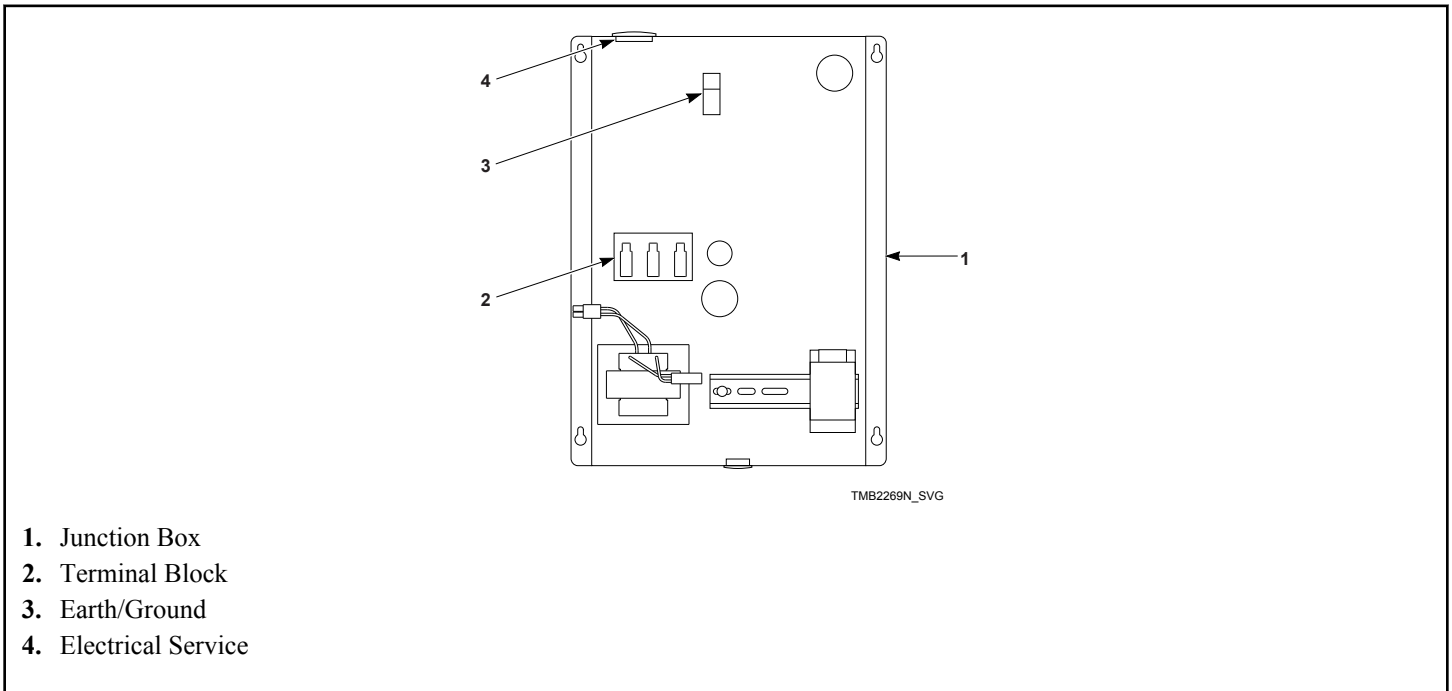
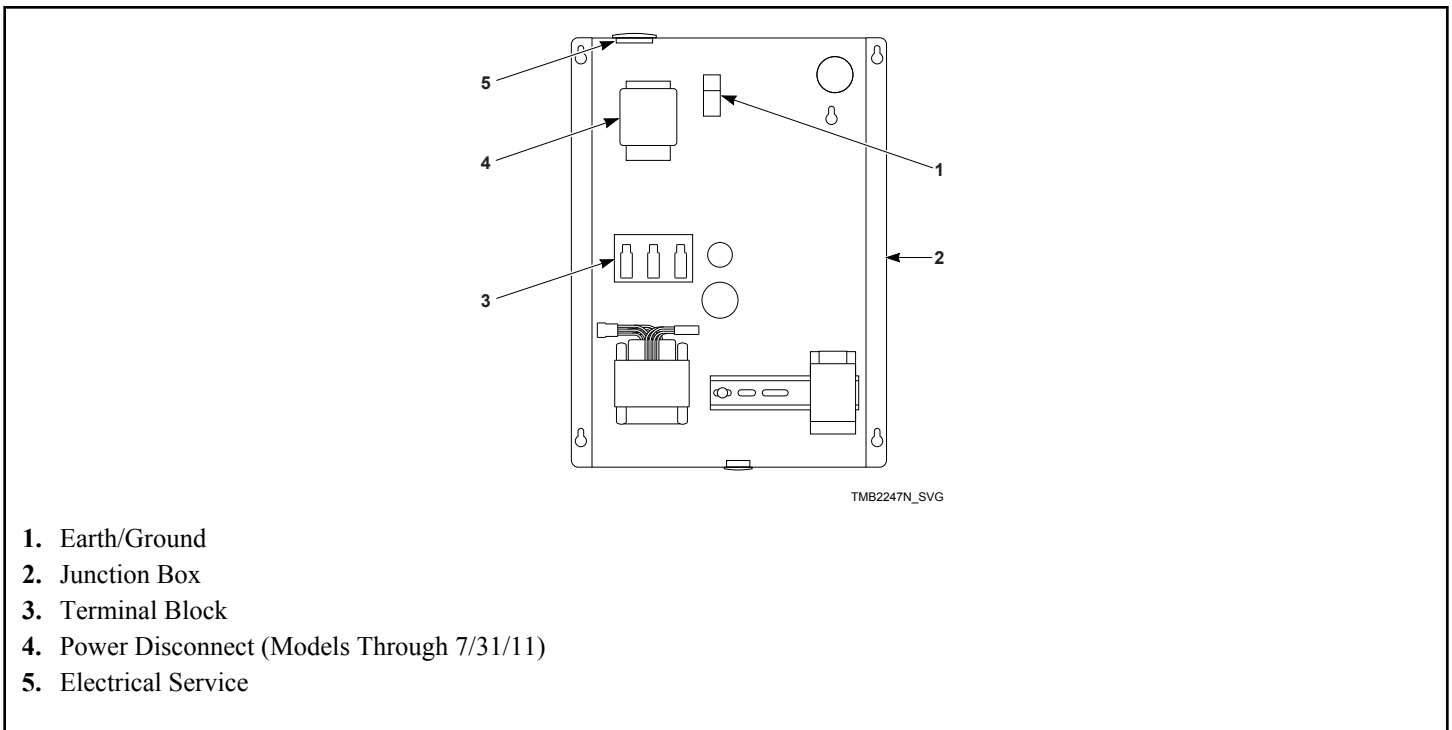

Figure 26 Ground and Terminal Block Locations for Non-CE Models
Figure 27 Ground and Terminal Block Locations for CE Models
2. Connect the conduit-encased leads to the disconnect switch, or circuit breaker. Connect the wire leads to the appropriate labeled terminal on the terminal block. The ground wire must be connected to the ground connection as shown in *Figure 26 Ground and Terminal Block Locations for Non-CE Models* or *Figure 27 Ground and Terminal Block Locations for CE Models*.